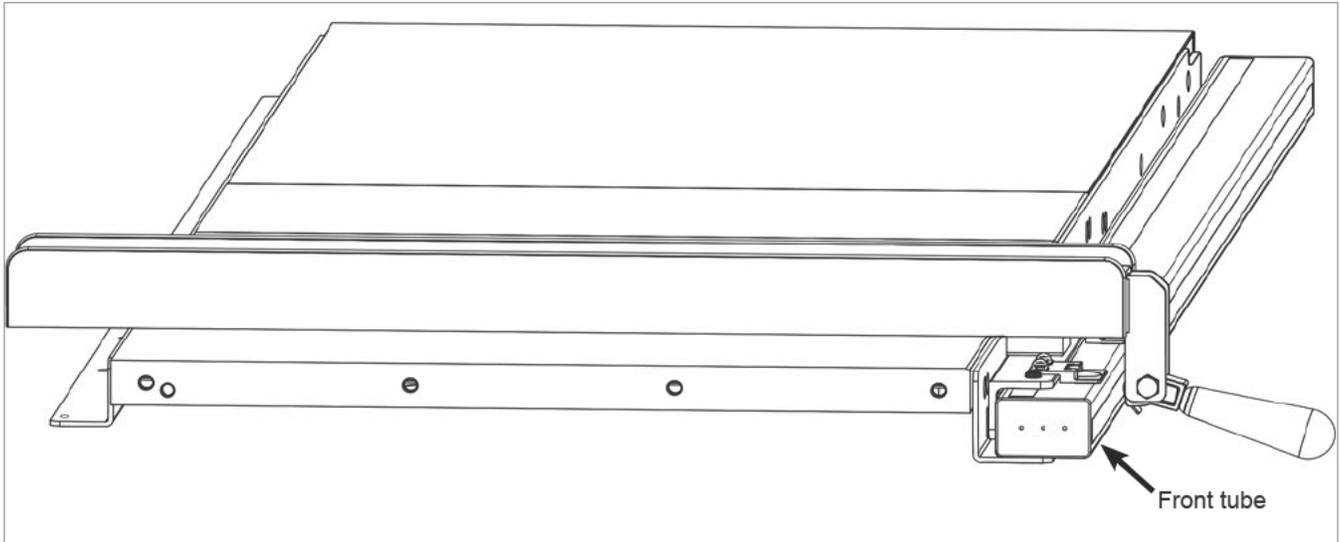

Fig. 30
19. The holes in the bottom of the front rail are oversized to allow you to adjust the position of the tube on the rail. To set the tube in the correct position, first pull the front tube away from the table as far as possible. Next, place your fence down on the tube near the left end (See Fig. 30).